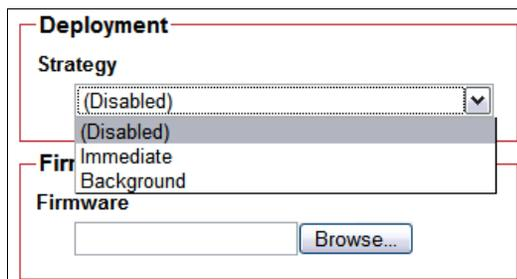

Figure 5-14 Choosing a deployment strategy for the firmware updates
4. Next, you must decide on the deployment strategy. Chose either **Immediate** or **Background** as the strategy (see Figure 5-14):